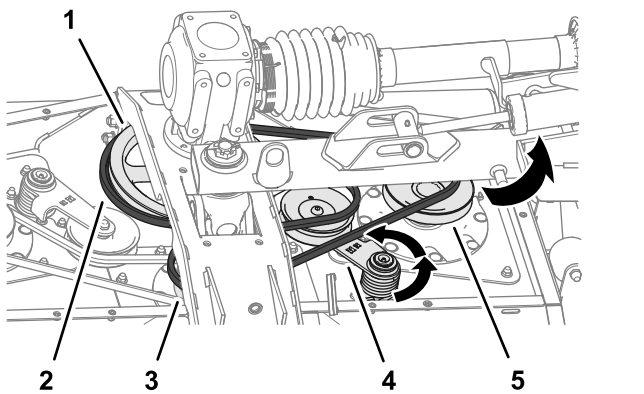

Figure 59
2. Use a breaker bar or similar tool to rotate the belt tensioner for the long belt counterclockwise and slip the belt off the tensioner pulley (Figure 59).
- Slip the long belt off the drive pulley, center-spindle pulley, and right-spindle pulley (Figure 59).